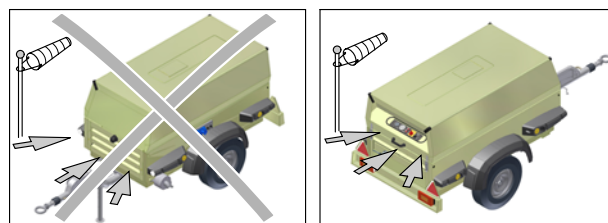

Fig. 3.4 Rear-end of compressor upwind
Apply parking brake by pulling parking brake handle (3) upwards. Place the compressor as level as possible; however, it can be operated temporarily in an out-of-level position not exceeding 15°. If the compressor is parked on sloping ground, immobilize the compressor by placing wheel chocks (available as option) in front of or behind the wheels. Locate the rear-end of the compressor upwind, (see Fig. 3.4), away from contaminated wind-streams and walls. Avoid recirculation of exhaust air from the engine. This causes overheating and engine power decrease.